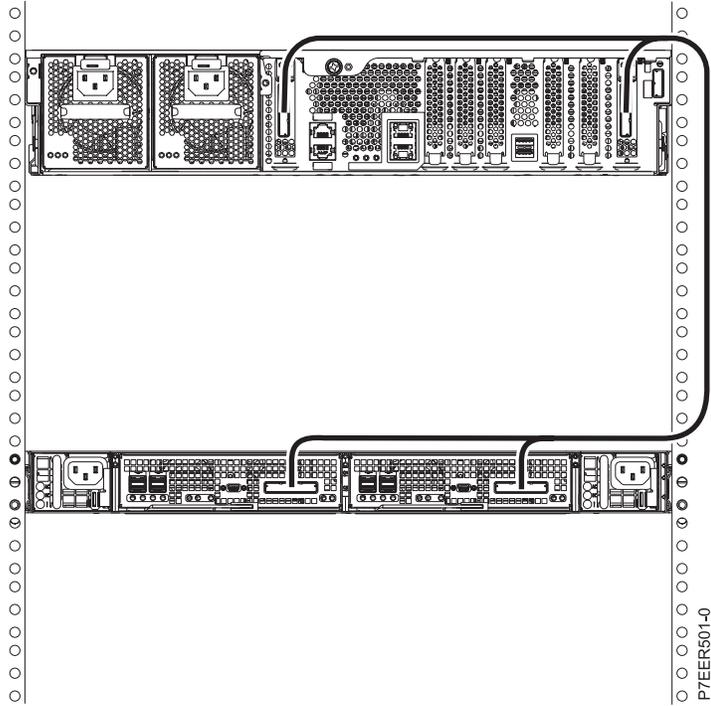

Figure 23. One ED/R1 PCIe storage enclosure connected to an 46L/2T system by using two FC EJ0H PCIe2 GX++ adapters and two PCIe cables
Figure 23 on page 21 shows an example of connecting an ED/R1 PCIe storage enclosure to an 46L/2T system by using two feature code (FC) EJ0H PCIe2 GX++ adapters and two PCIe cables.